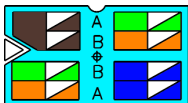

Fig. 1
- a. For T568A wiring follow the color code marked “A” (Fig. 1)
- b. For T568B wiring follow the color code marked “B” (Fig. 1)